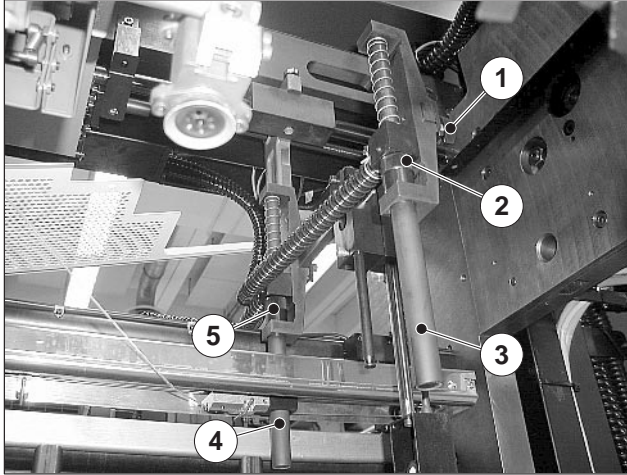

Fig. 42 Lateral sheet separation blowers
- a corner blower (Fig. 42/4)
- and a diagonal blower bar (Fig. 42/3).
1. Adjust the height of the corner blower (Fig. 42/4) with the knurled nut (Fig. 42/5).
2. Adjust the height of the diagonal blower bar (Fig. 42/3) with the knurled nut (Fig. 42/2).
3. Open the wing screw (Fig. 42/1) on the diagonal blower bar.
4. Adjust the diagonal blower bar (Fig. 42/3) to the sheet format.
5. Close the wing screw (Fig. 42/1) on the diagonal blower bar.